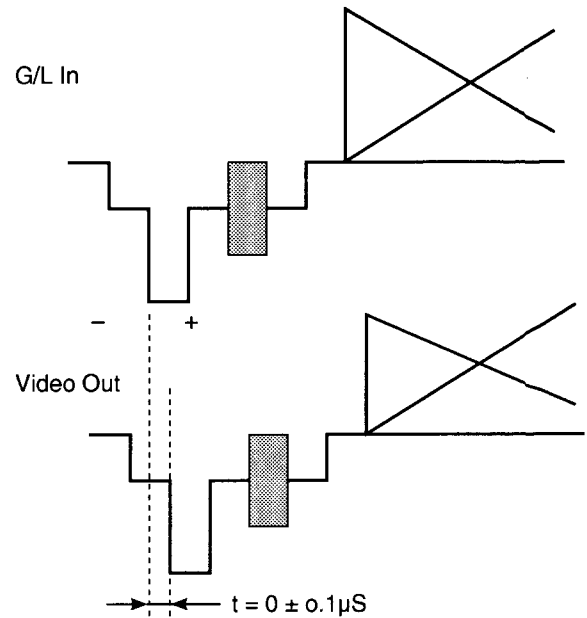

Fig. 5-6
- Adjust data with the **ARROW** keys so that the Video Out signal coincides to the G/L In signal as shown in Fig. 5-6.